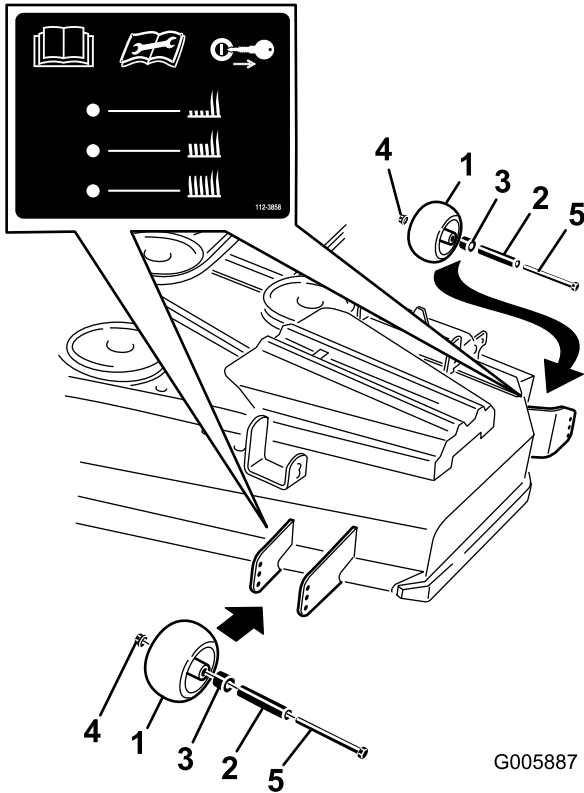
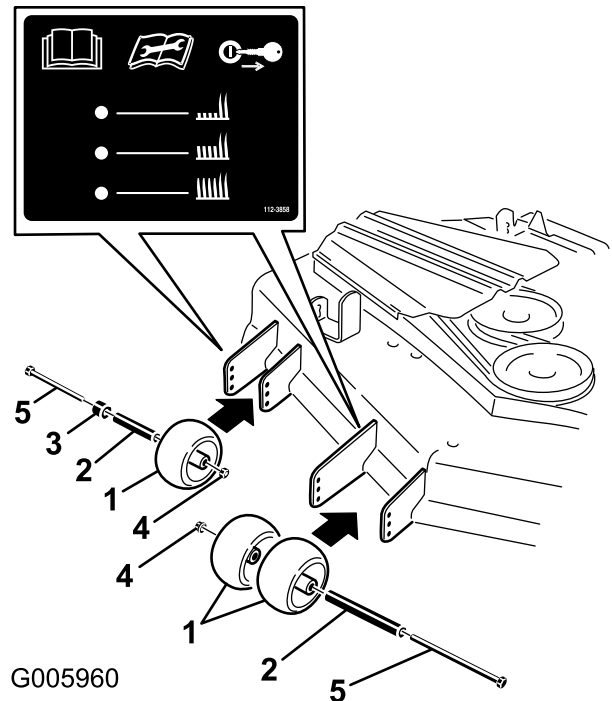

Figure 19
Figure 20
3. After adjusting the height-of-cut, adjust the rollers by removing the flange nut, bushing, spacer, and bolt (Figure 19 or Figure 20).
Note: The two middle rollers will not have a spacer (Figure 19 or Figure 20).
5. Install the flange nut, bushing, spacer, and bolt. Torque to 40-45 ft-lb (54-61 N-m) (Figure 19 or Figure 20).